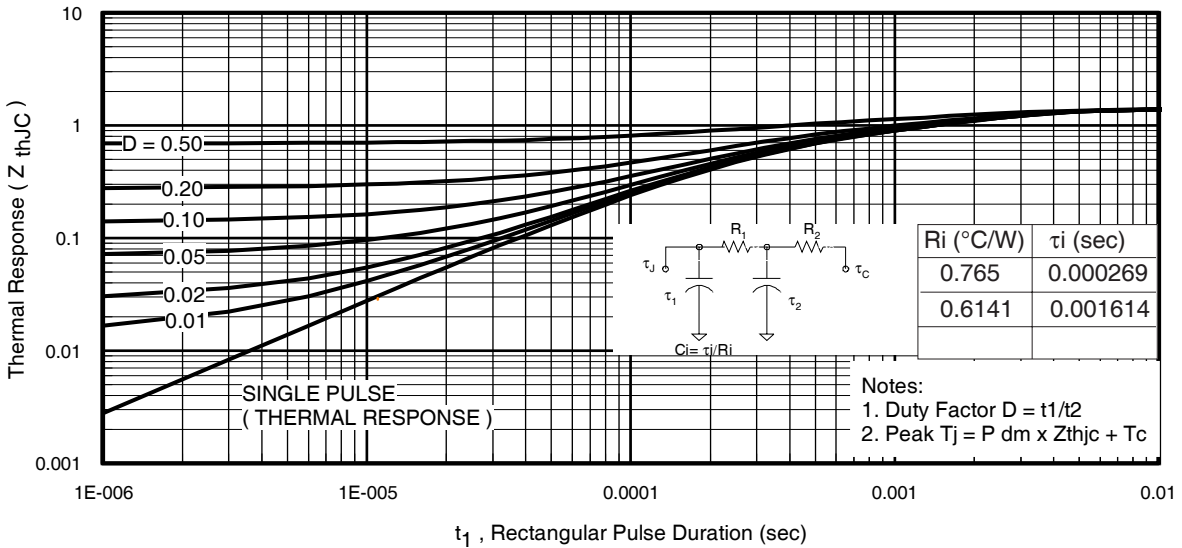

Fig 11. Maximum Effective Transient Thermal Impedance, Junction-to-Case
- ① Repetitive rating; pulse width limited by max. junction temperature. (See fig. 11).
- ② Limited by T_{Jmax} , starting $T_J = 25^\circ\text{C}$, $L = 0.089\text{mH}$, $R_G = 25\Omega$, $I_{AS} = 36A$, $V_{GS} = 10V$. Part not recommended for use above this value.
- ③ Pulse width $\leq 1.0\text{ms}$; duty cycle $\leq 2\%$.
- ④ $C_{oss\ eff.}$ is a fixed capacitance that gives the same charging time as C_{oss} while V_{DS} is rising from 0 to $80\% V_{DSS}$.
$Z_{thJC}(D, t_{av})$ = Transient thermal resistance, see figure 11)